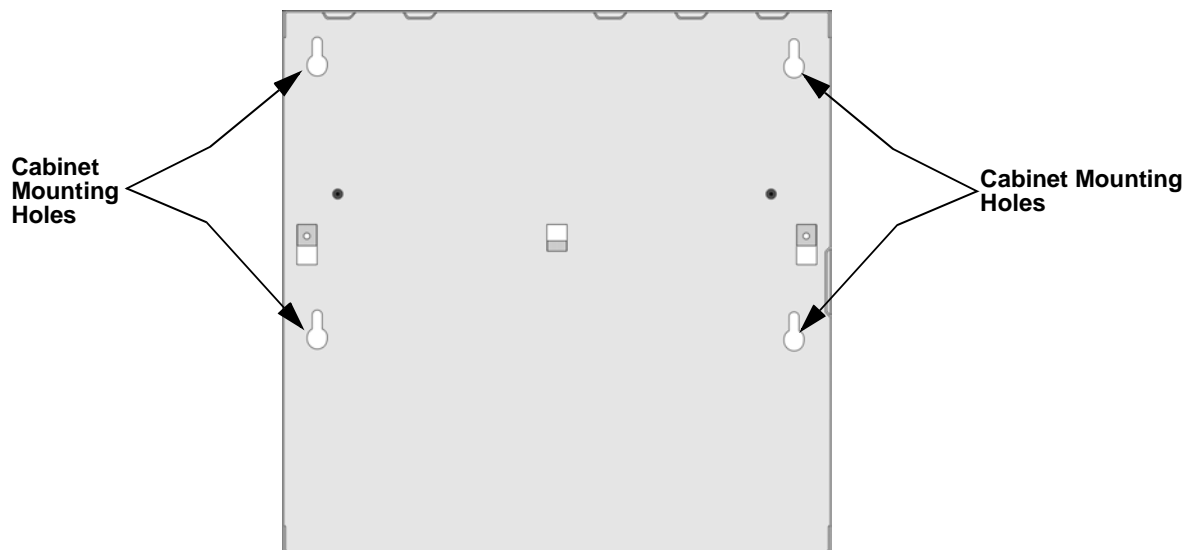

Figure 6-3 Cabinet Mounting Hole Locations
6. Mount the cabinet using the appropriate screws and anchors, through the cabinet mounting holes. See Figure 6-3.